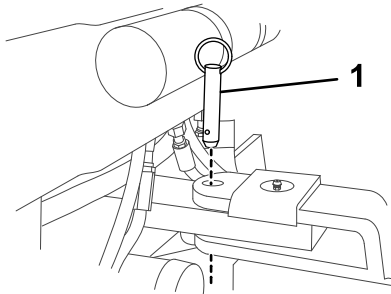
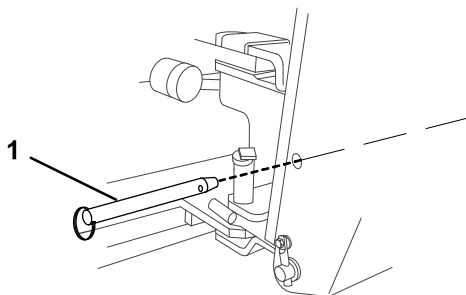
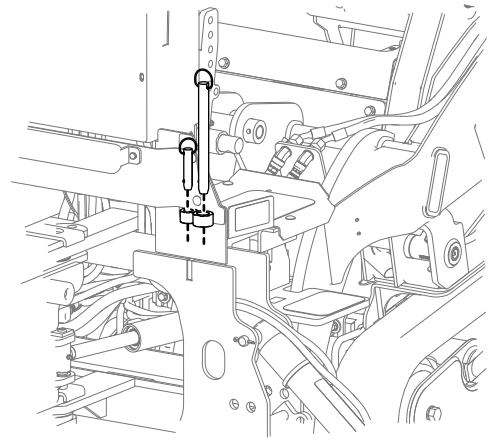

Figure 6
Figure 7
Figure 8
3. Remove the 2 pins locking the boom in place (Figure 6 and Figure 7) and place them in the storage positions (Figure 8).
Note: One pin prevents the boom from swinging side to side (Figure 6) and the other prevents the boom from moving up and down (Figure 7).